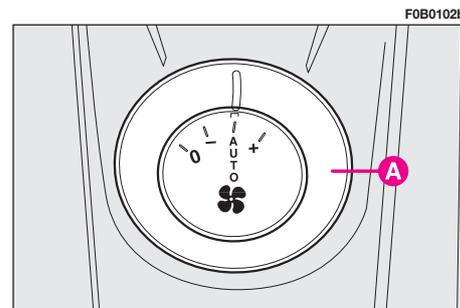

fig. 90
- **rear seat air capacity adjustment (REAR) fig. 89 (for versions without additional fans):** this is possible by pressing button **D**, thus the second row passengers can adjust air capacity with the additional fan knobs **A**-fig. 90. The rear fan symbol will be viewed on the display **C**.